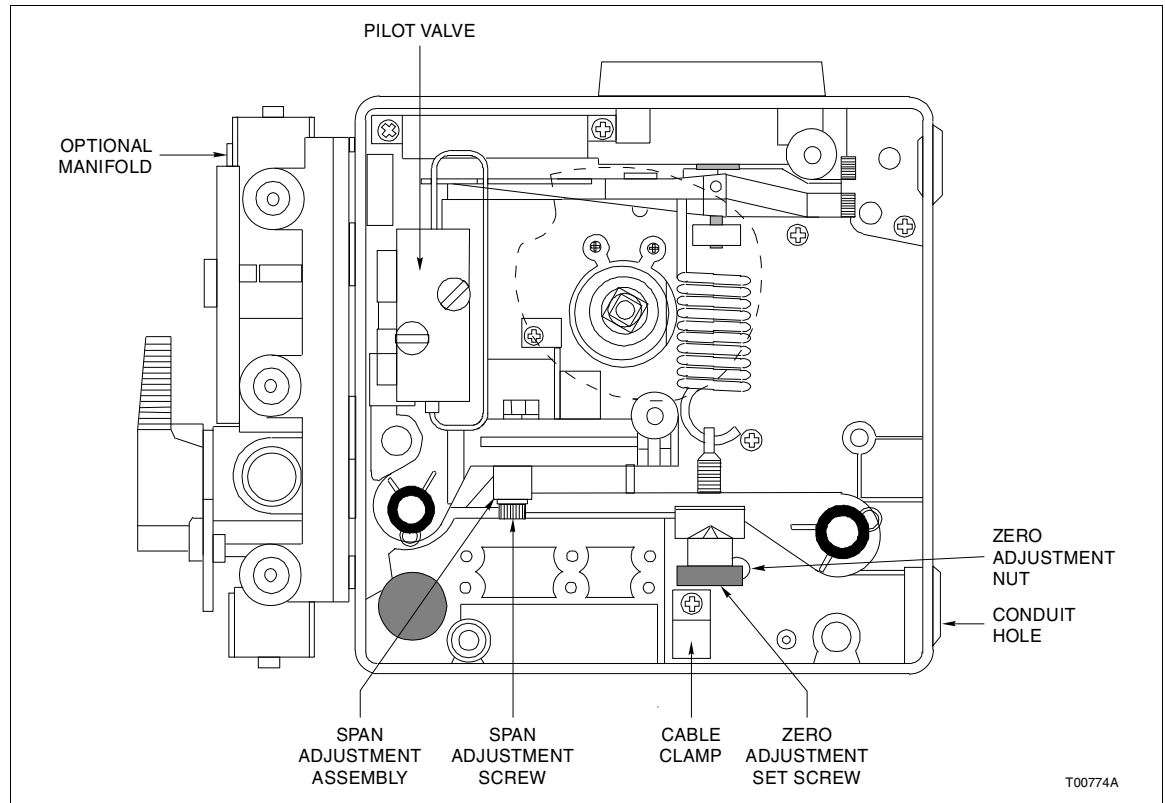

Figure B-12. Calibration Adjustments
NOTE: Route the wiring inside the positioner so it does not become entangled with moving parts. A cable clamp (Figure B-12) is provided inside the positioner so entanglement can be avoided.
- NOTE:** Route the wiring inside the positioner so it does not become entangled with moving parts. A cable clamp (Fig. B-12) is provided inside the positioner so entanglement can be avoided.